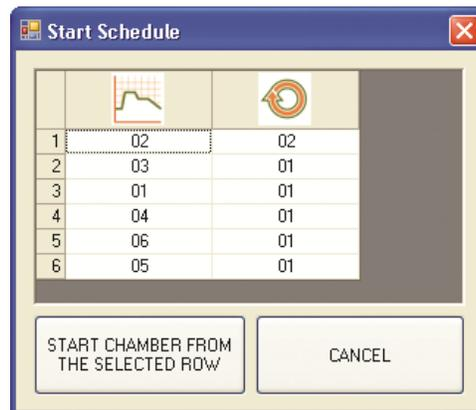

Figure 5-10 Start Schedule
5. To run the schedule, select the **Start** icon , and then select a program (row) to be the first program to run (Figure 5-10).